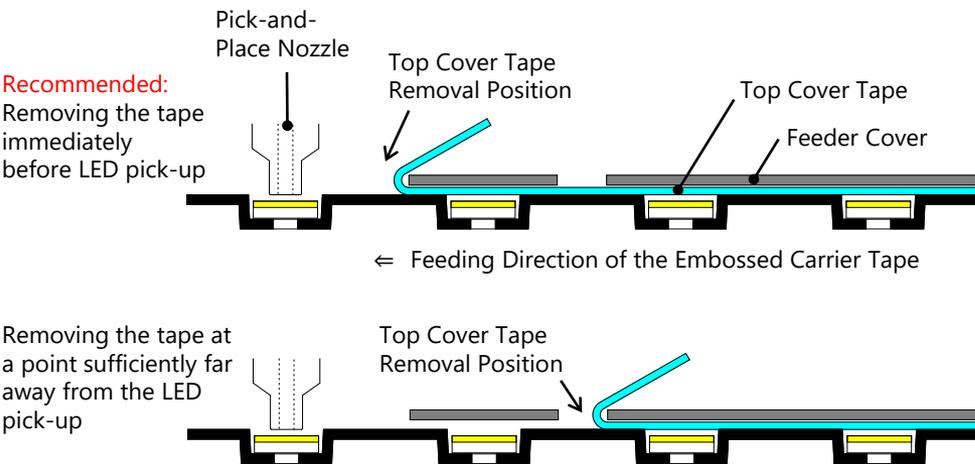

Figure 3. Top Cover Tape Removal Position
4. It is recommended to remove the top cover tape at the recommended position shown in Figure 3 (i.e. immediately before LED pick-up).